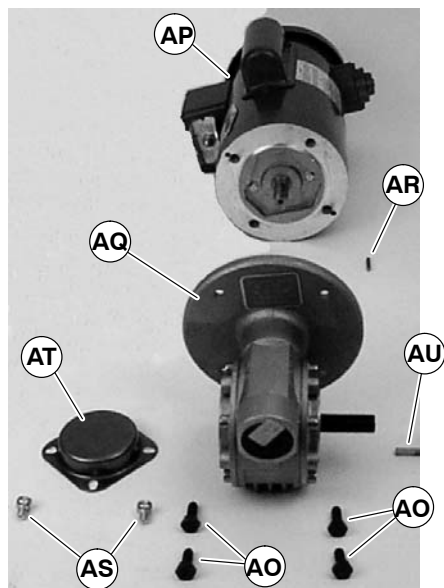

Figure 28
8. Remove four screws (AO of Figure 28). Detach motor (AP) from gear reducer (AQ). Retain motor output shaft key (AR).
14. With key (AR of Figure 28) in keyway, slide motor (AP) and gear reducer (AQ) together. Install screws (AO) and tighten.